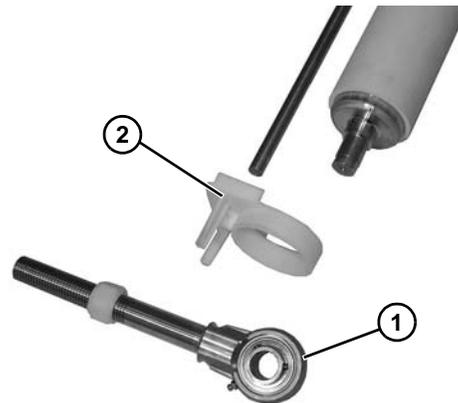

Figure 67
- Remove the bearing shafts (Figure 67, item 1) and both pinch guards (Figure 67, item 2).